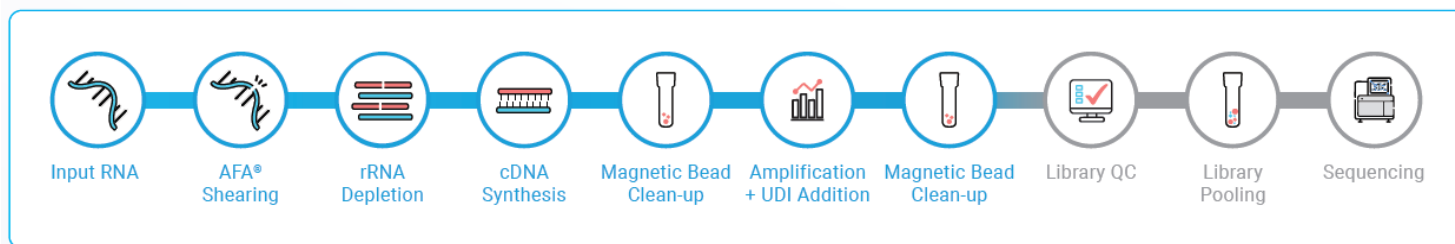

Figure 1. truCOVER RNA Library Prep Workflow.
The truCOVER RNA Library Prep Kit incorporates a high-performance ribosomal RNA-depletion step optimized for degraded RNA that seamlessly connects to the reverse transcription and cDNA synthesis step, preserving strand-specificity. Adaptor indices are incorporated by amplification after an interim magnetic bead cleanup step. After a final cleanup step, the library is ready to undergo quality control (QC) procedures and be pooled with other samples for sequencing. The schematic workflow is shown in **Figure 1**.